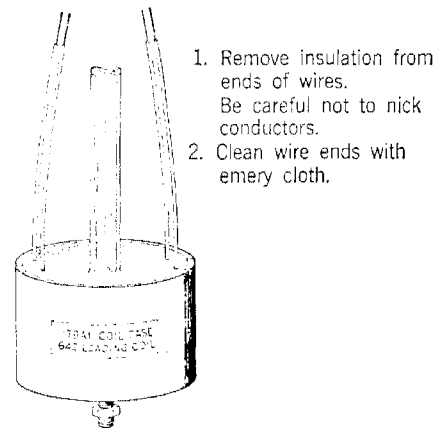

Fig. 8
2.05 Prepare the ends of the conductors from the coil case as shown in Fig. 8.